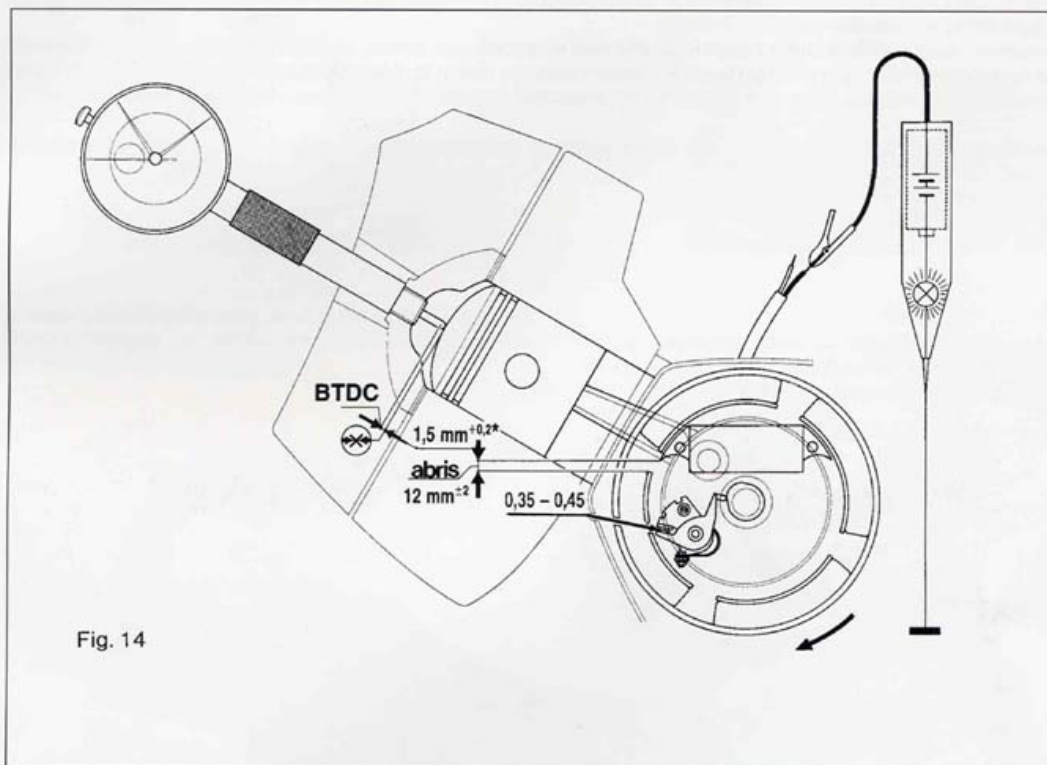

Fig. 14
For proper function of the engine is essential a correct ignition timing. The ignition advance should be $1,5 \pm 0,2 \text{ mm}^*$. The most common cause of incorrect timing is due wear or damage of contact breaker points, wear of cam actuated breaker nose lever, damage of condenser. To provide the exact timing is necessary to replace faulty parts and proceed (fig. 14) as follows:
- For efficient spark intensity or high ignition voltage is essential a proper abris adjustment. As a matter of fact, it is the distance between the edge of the ignition coil pole shoe and the receding magnet pole edge at the opening point of the contact breaker and it should be within the range of $12 \pm 2 \text{ mm}$ ($0.473 \pm 0,079 \text{ in}$). The gap should be measured the moment the intensity of light or sound frequency is changed on the gauge (fig. 14).